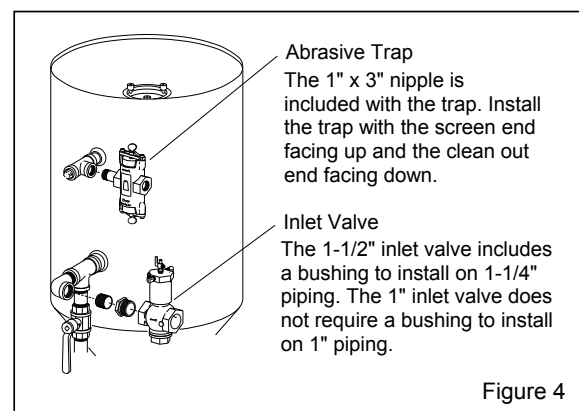

Figure 4
2.2.3 Attach the inlet valve and abrasive trap as shown in Figure 4. The directional arrow on the inlet valve points toward the blast machine, indicating the direction of air flow. The arrow on the abrasive trap points away from the machine.